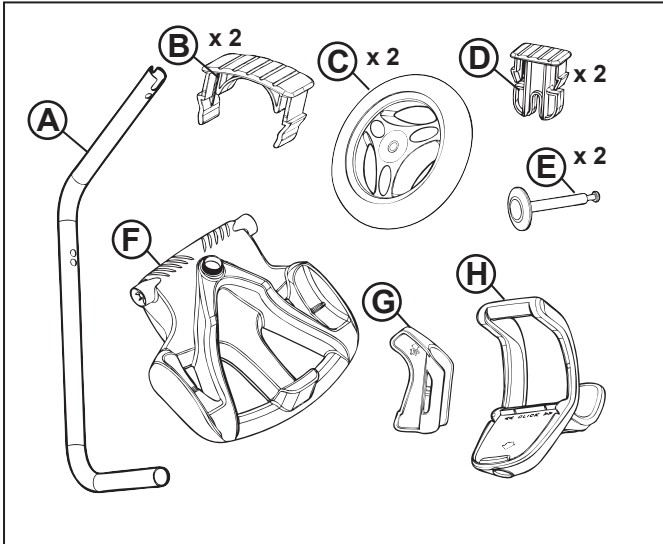

Figure 1. Transport Caddy Assembly Components
- Transport and storage caddy components. (Figure 1)